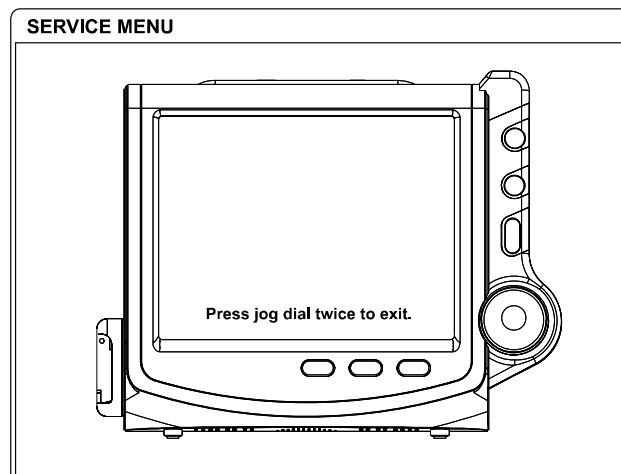

Figure 5. Switch/LED Test
1. Select **Switch/LED Test** in the system test. The image screen will appear as Figure 5.